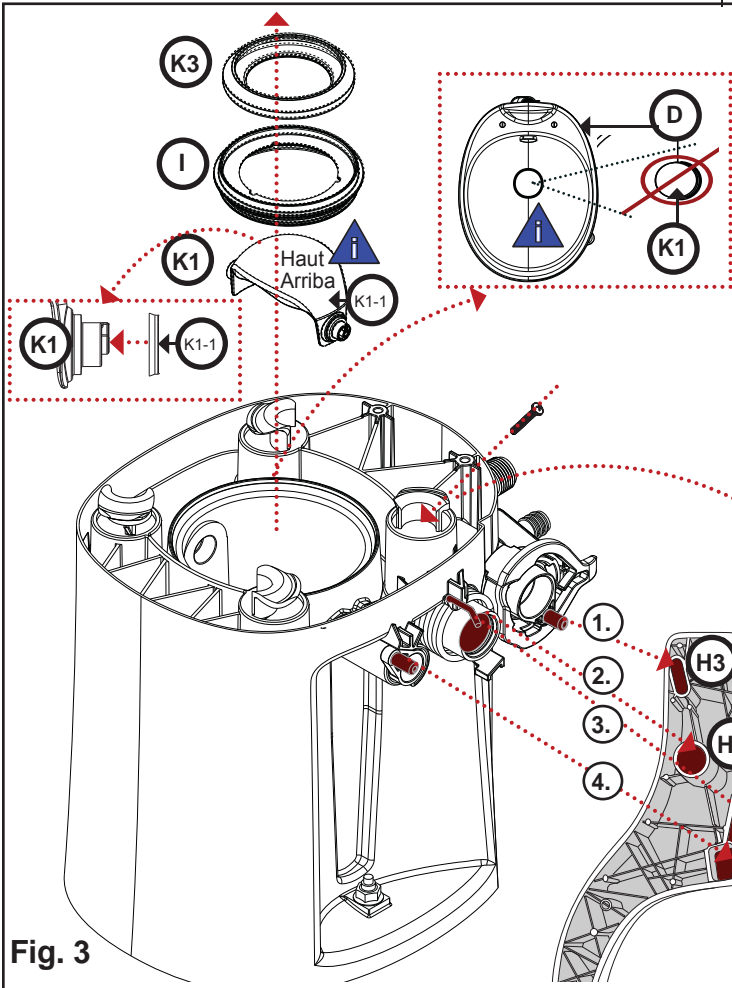

Fig. 3
7. Remove (old) **K3**; discard (Fig. 3).
8. Remove **I**; set aside (Fig. 3).
9. Squeeze ends of (old) **K1** together to remove from **E**; discard (old) **K1** and **K1-1** (Fig. 3).
Unless specified, refer to Fig. 3 and 4.
2. Squeeze ends of (new) **K1** together; insert into **E** seating **K1** in the "closed" up position. See orientation in Fig. 3.
5.  Rotate (new) **K4** until **K1** is in the "up" position. See orientation in Fig. 3.
14.  To avoid leaking, place **D** on **E**; turn clockwise to align holes. Be sure **D** is visibly **CENTERED** over (new) **K1** as pictured in Fig. 3.
17.  Before continuing, press **H** to verify **K1** operates correctly (Fig. 3).
7. Enlever (l'ancienne pièce) **K3**; la jeter (Fig. 3).
8. Enlever **I**; mettre de côté (Fig. 3).
9. Pincer ensemble les extrémités de (l'ancienne pièce) **K1** pour la retirer de **E**; jeter (les anciennes pièces) **K1** et **K1-1** (Fig. 3).